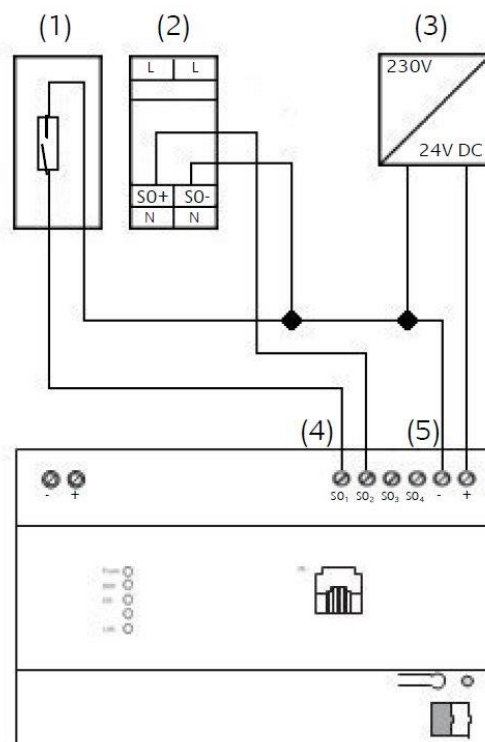

Figure 6: S0 pulse input connection plan
- Connect 24 V DC to the terminal for the S0 pulse input power supply (**Figure 6 (5)**). No 230V!
- Connect S0 pulse input devices to the S0 pulse input terminals as follows (**Figure 6 (4)**).